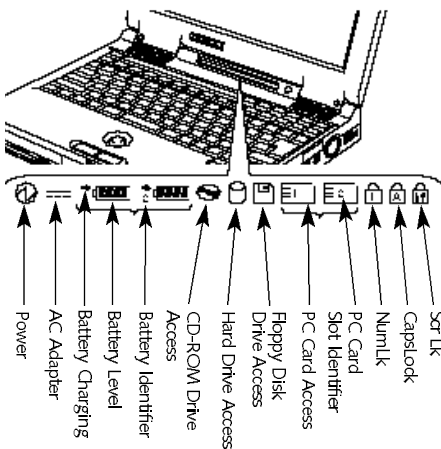

Figure 2-3 Status Indicator Panel
The Status Indicator panel is located in the recess just above the keyboard. (Figure 2-3.) The appropriate indicators become visible as you use your notebook.
The two sets of battery indicators show whether or not the main Lithium ion battery and/or the optional second Lithium ion battery are installed, and indicate the condition of each. (Figure 2-3.) Battery 1 is the main Lithium ion battery which is installed in the Battery Bay and Battery 2 is an optional second Lithium ion battery which may be installed in Multi-function Bay 2 only. The battery indicators are displayed only for a battery which is installed.
A small arrow icon (Battery Charging indicator) appears to the left of each of the Battery Level indicators and above the number (Battery identifier) if that battery is charging. The Battery Charging indicator flashes if the battery is too hot or too cold to charge. (Figure 2-3.) The Battery Charging indicators operate whether the power switch is Off or On.
**Before turning off the power by putting the power switch in the Off position, check that the Hard Drive, CD-ROM Drive, PC Card and the Floppy Disk Drive Access indicators are all Off. (See Figure 2-3, page 19.) If you turn off the power while accessing a disk or PC Card there is a risk of loss of data. The Off position is reached by facing the keyboard and display panel, and moving the switch toward the front of your notebook. To assure that your notebook shuts down without error, use the Windows 95 shut down procedure.**